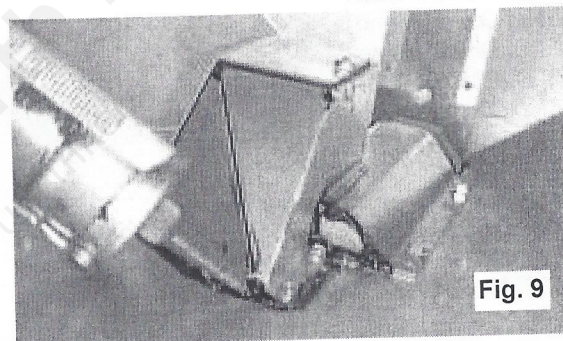

Fig. 9
10. Caulk seams so as not to allow pellet fines to enter the cover (see Fig. 9).